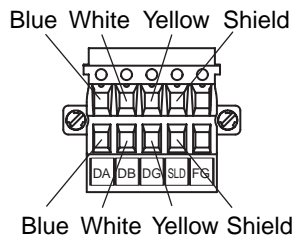

Fig.1
- (1) Make sure to connect the signal cables to designated pins (Refer to Fig.1).
- (2) Make sure to connect "terminal resistor" to the units at the both ends of the CC-Link system.